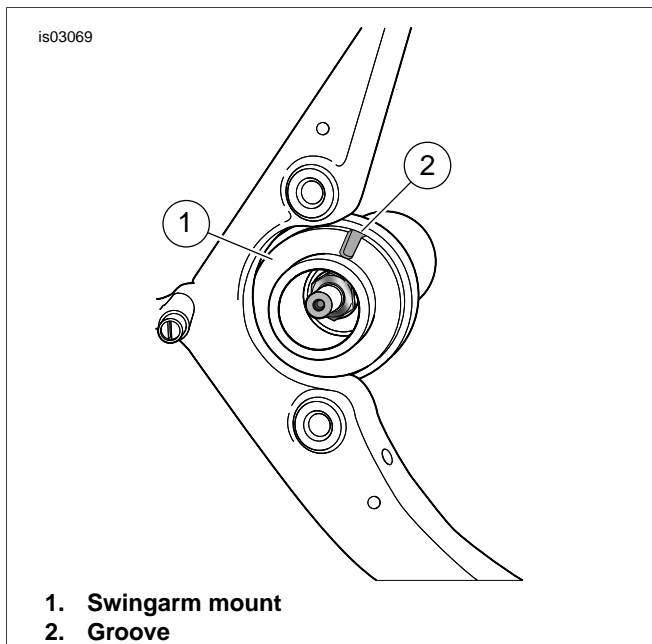

Figure 12. Swingarm Mount (2003 and later models)
- See Figure 12. Check the right pivot shaft rubber mount to be sure it is in place.